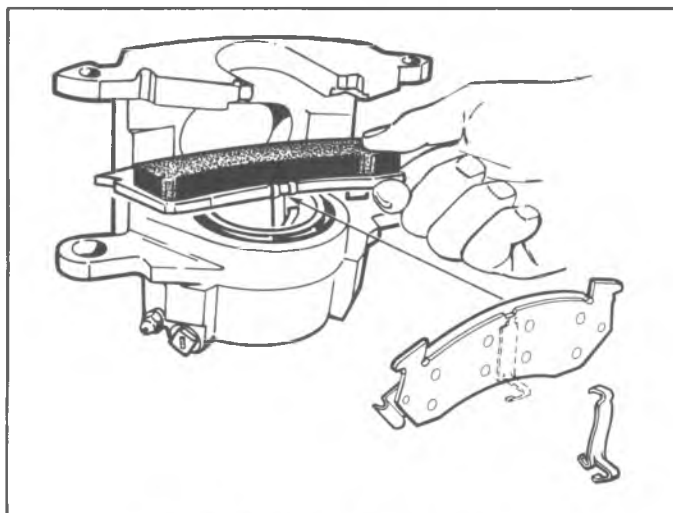

Fig. 56--Installing Support Spring
4. Install the shoe support spring and the "inboard" shoe in the center of the piston cavity as shown in Figure 56.